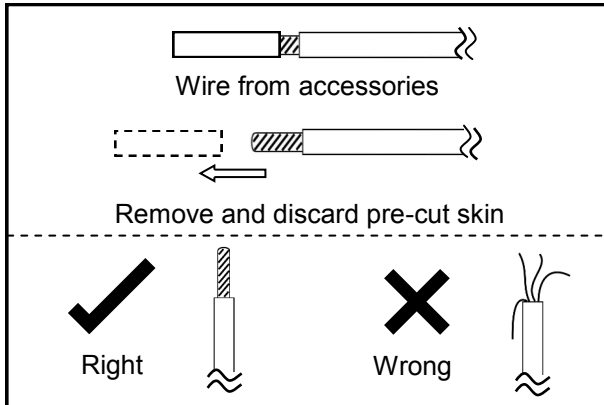

Fig. 1
1. Remove the pre-cut skin on the open end of wire from accessories. Wires **MUST NOT** be frayed. Wires must be connected as shown in Fig.1.